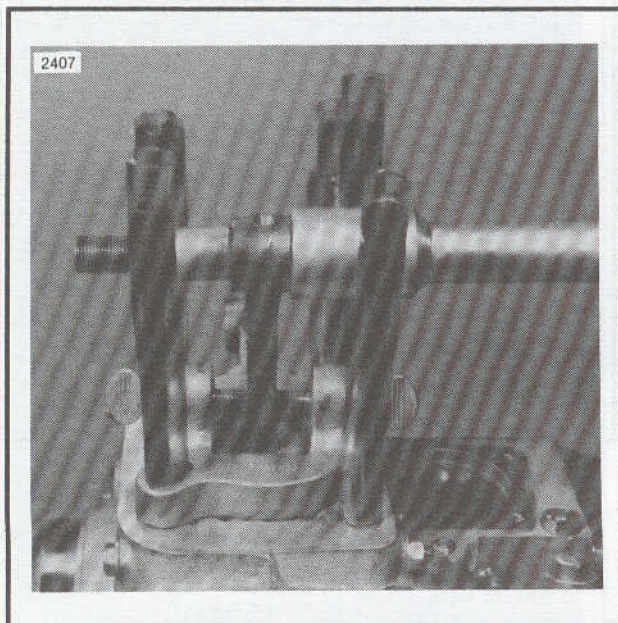

Figure 3-35. Replace Rod Bushings
Rod Bushings (Figure 3-35)
1. See Figure 3-35. To use CONNECTING ROD CLAMPING TOOL, Part No. HD-95952-33A, you must first enlarge the holes in the tool. Place the tool over the studs taking care not to scratch or bend them. Install the plastic hoses over the studs wedging them inside the holes in the tool.